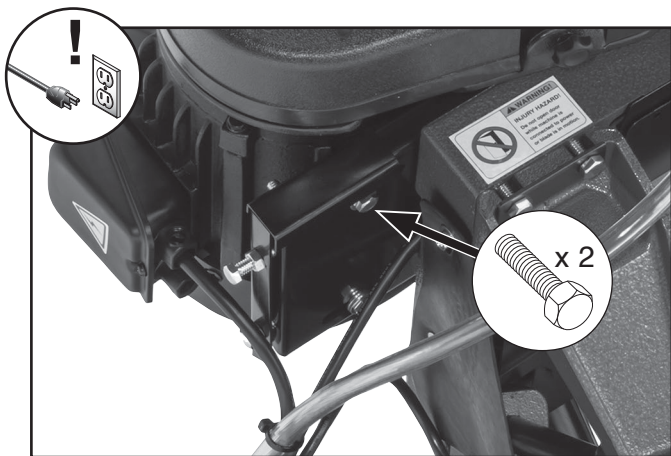

Figure 60. Location of motor mount hex bolts.
4. Loosen hex bolts located underneath motor mount (see **Figure 60**).